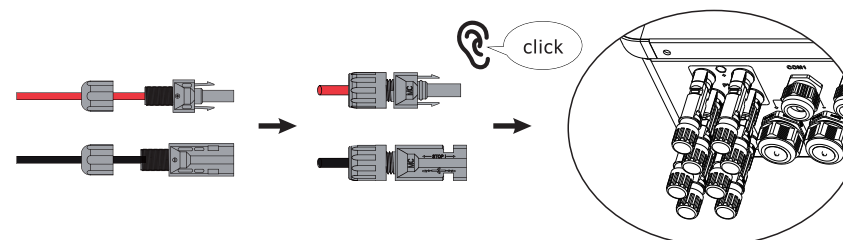

Figure 4.1-4 The PV plug is connected to the inverter
Step4. Screw the cap on and plug it onto inverter side. There will be a click sound if connectors are inserted correctly into PV plugs,as shown in Figure 4.1-4.